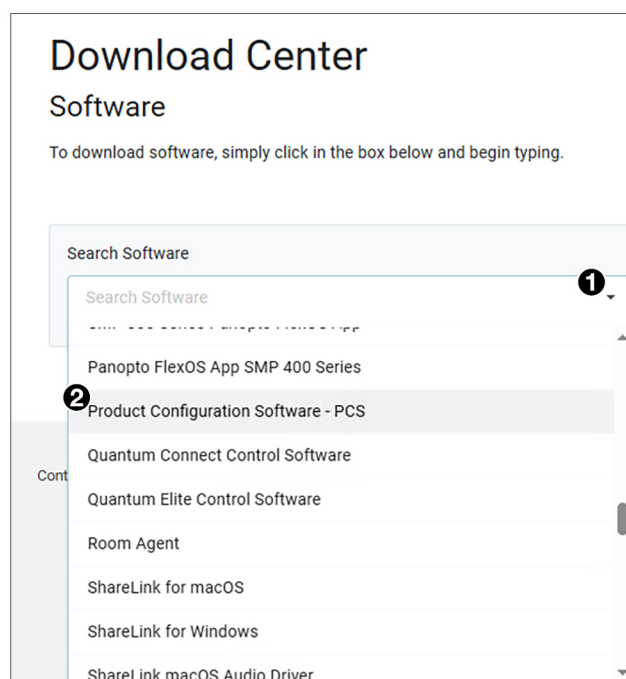

Figure 10. PCS Links on Software Download Center Screen
1. On the Download Center screen, click on the down arrow in the **Search Software** box to see a list of the downloadable software (see figure 10, ① on page 25). If you need an Extron Insider ID number to access this box, see your Extron representative.
2. From the drop-down list, select Product Configuration Software - PCS (see figure 10, **2**).